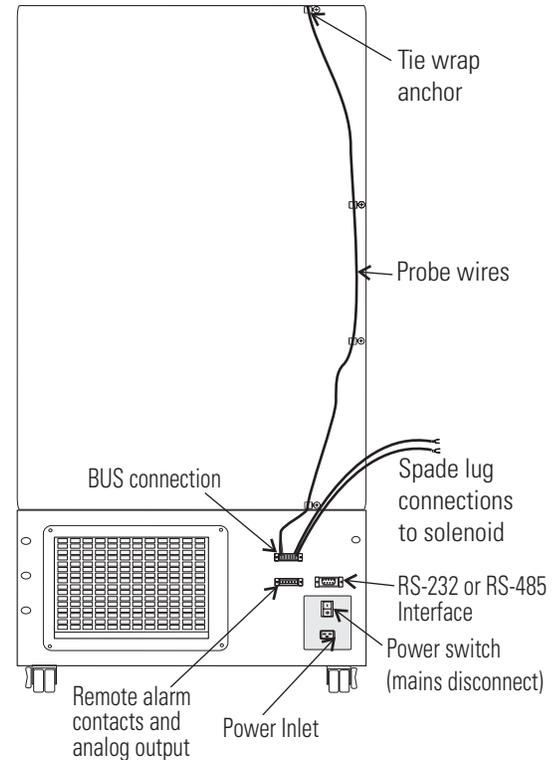

Figure 10. BUS Connections
1. Remove the four screws on the freezer back panel and use them to mount the tie wrap anchors as shown in Figure 10. Secure the two probe assembly wires with tie wraps.